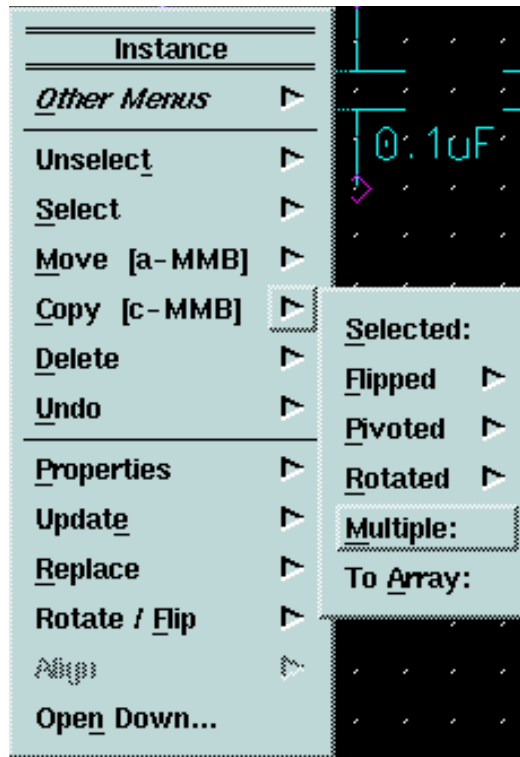

Figure 2-28. Copy Menu
32. Create the bottom row of capacitors by selecting the last capacitor you copied in the previous step, choosing the **Copy > Multiple** popup menu item, shown in Figure 2-28.